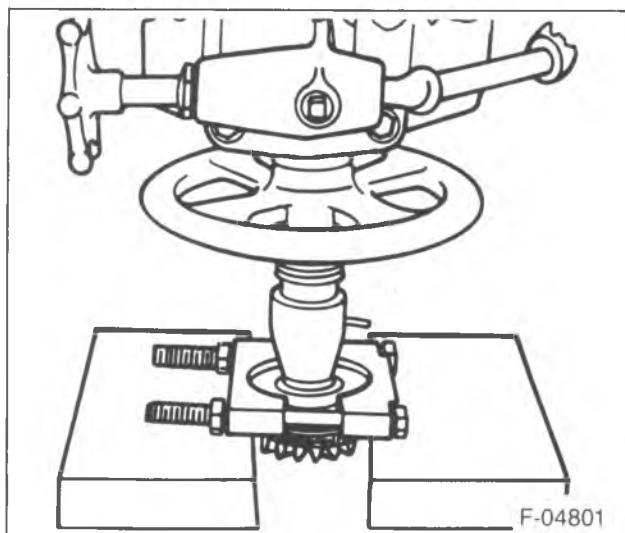

Figure 4—Removing the Thrust Ring
- Measure and record the overall length of the gear assembly from the front of the gear to the back of the thrust sleeve (14) including the side gear washer (13).
- 1. Guide clips (20).
- 2. Thrust sleeve (14) using J 22910-01.
- Press the sleeve from the side gear (figure 4).
- 5. Cam plate (16).
- 6. Cam side gear (21).